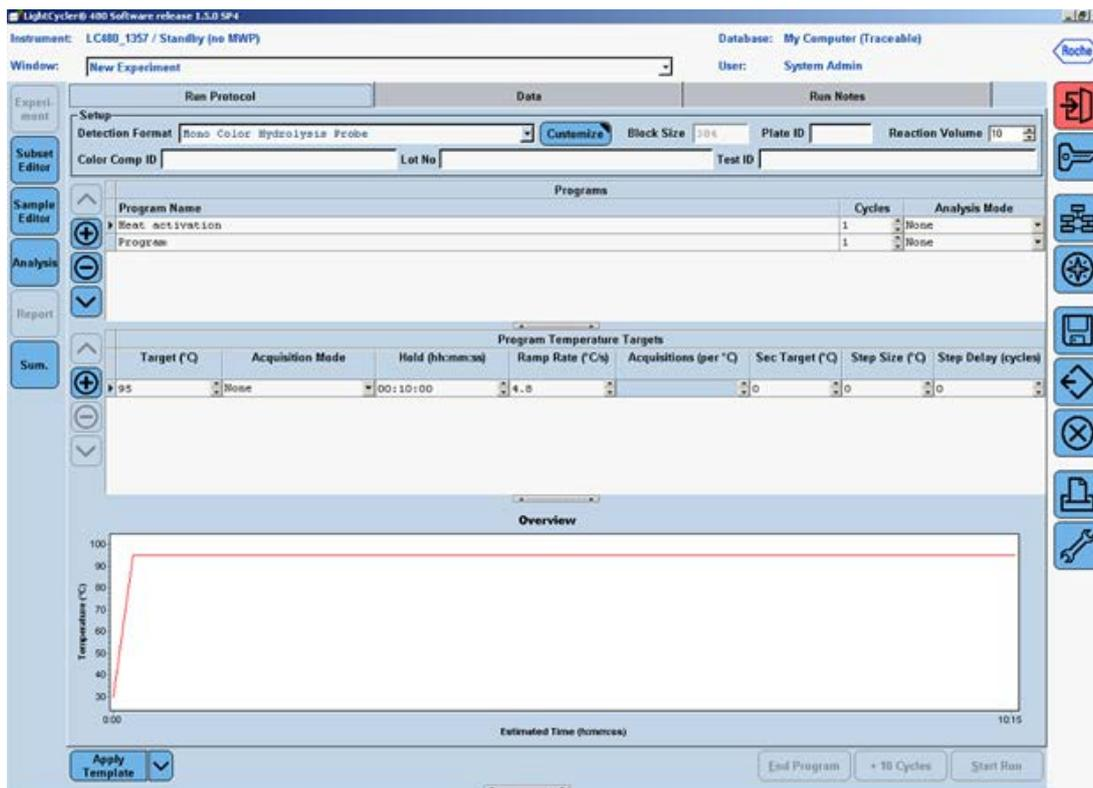

Figure 2. Initial "Run Protocol" window.
5. In the "Setup" area at the top of the "Run Protocol" tab (Figure 2), specify the following setup parameters: